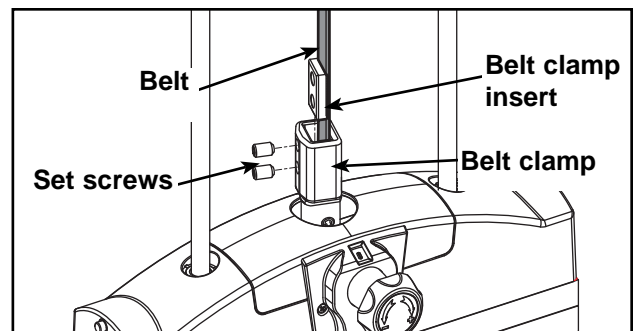

Figure 14
- I. Pull belt tight and secure belt to clamp with the two set screws. **NOTE:** Torque set screws 300-350 in./lbs. See Figure 14.